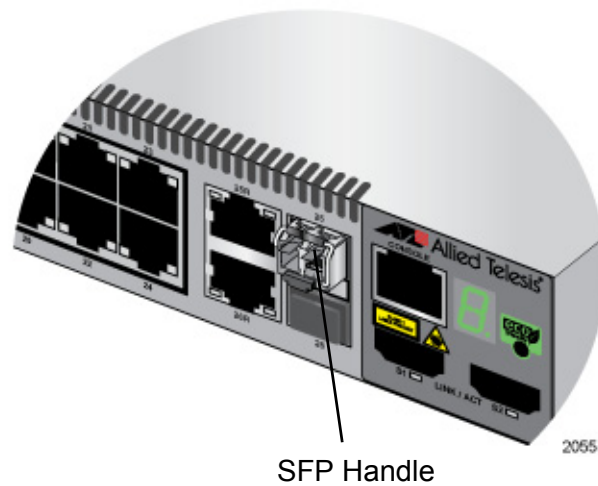

Figure 48. Positioning the SFP Handle in the Upright Position
6. Verify that the handle on the SFP transceiver is in the upright position, as shown in Figure 48.